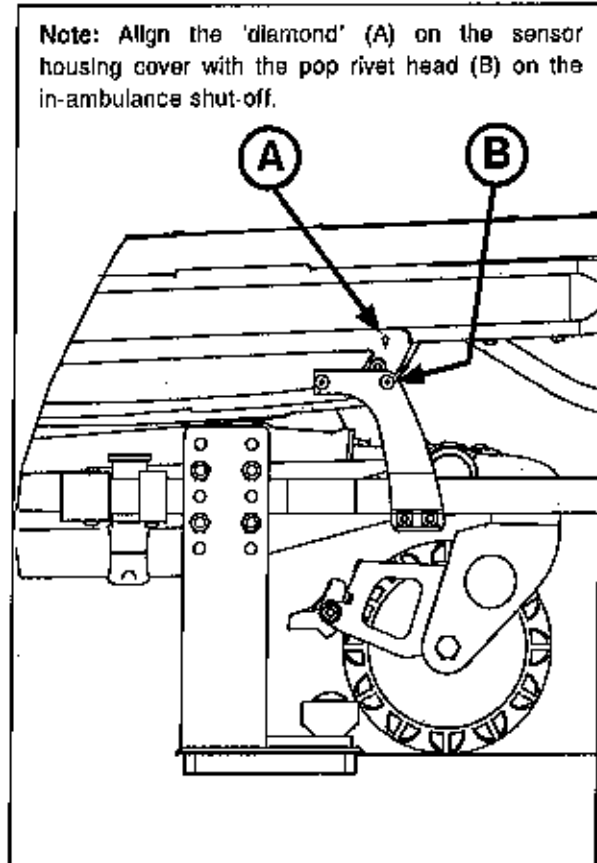

Figure 11
8. Adjust the shut-off bracket along the rail clamp until the "diamond" (A) on the sensor housing is lined up with the pop rivet head (B) as shown in Figure 11.